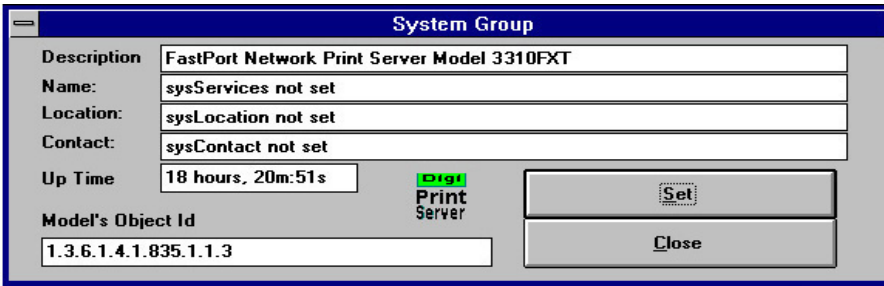

Figure 3-5. Digi/MiLAN Logo Message
- **Digi/MiLAN logo:** Depending on the versions of MIL-3000FTX, either a “MiLAN” or a “Digi” appears on the top, right-hand side of the graphic. When this Logo is clicked on, FastPort specifications appear. Change the **Name**, **Location**, and **Contact** and press **Set** (Figure 3-5).